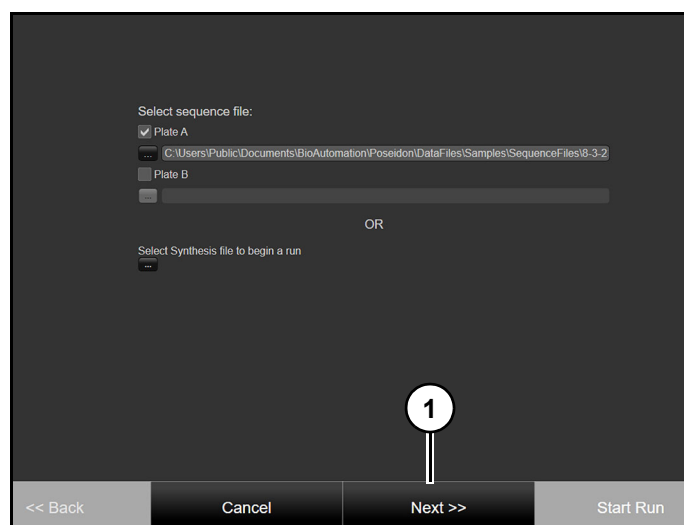

Figure 81
3. Click "Next" (1) (Figure 81).